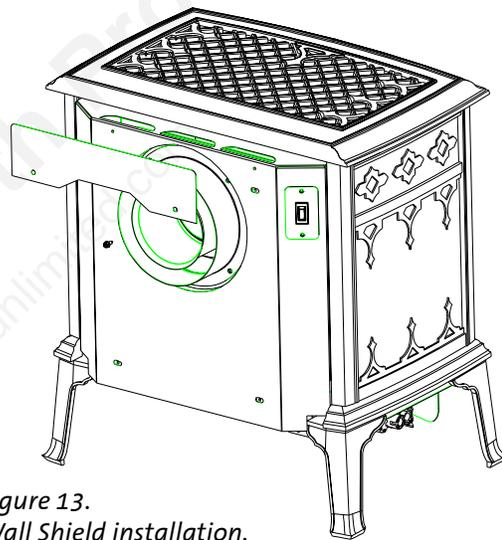

Figure 13. Wall Shield installation.
3. Secure the wall shield to the stove with the two 1/4" hex head screws. See fig. 13.